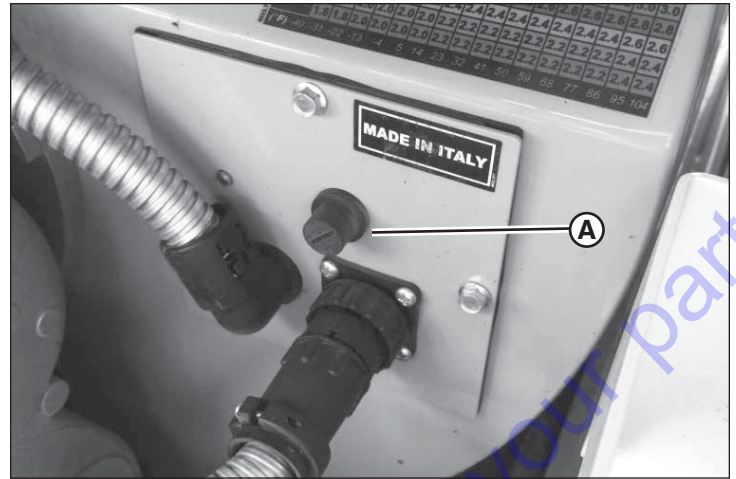

Figure 41
2. If the burner unit does not start again automatically, reset the heater unit. Unscrew the plastic cover (A, Figure 41) protecting the reset button on the back of the heater unit. Press the reset button. Re-install the protective cover.